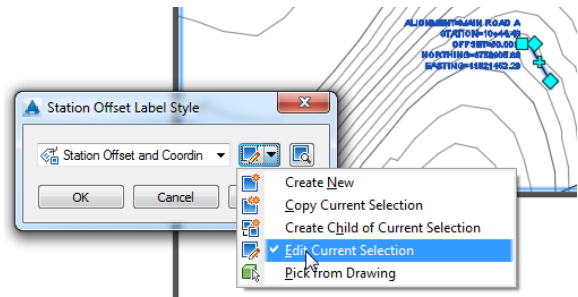

FIGURE 2.4 Clicking the Edit Current Selection command for the selected label style
- 6. In the Station Offset Label Style dialog box, click Edit Current Selection, as shown in Figure 2.4.